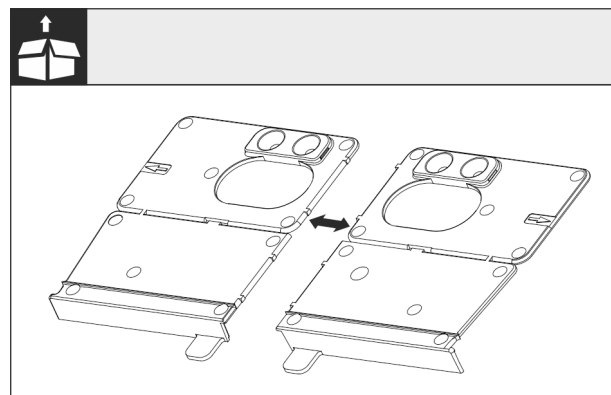

Fig. 25
- Separate the floor mounting bracket Fig. 25 () at the perforation.